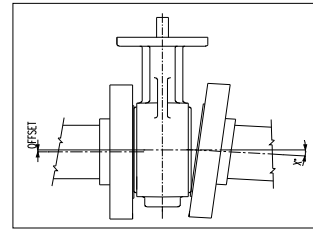

Fig 3.3 Valve Alignment
- a) Do not attempt to correct the line misalignment by means of flange bolting Ref to fig 3.3.